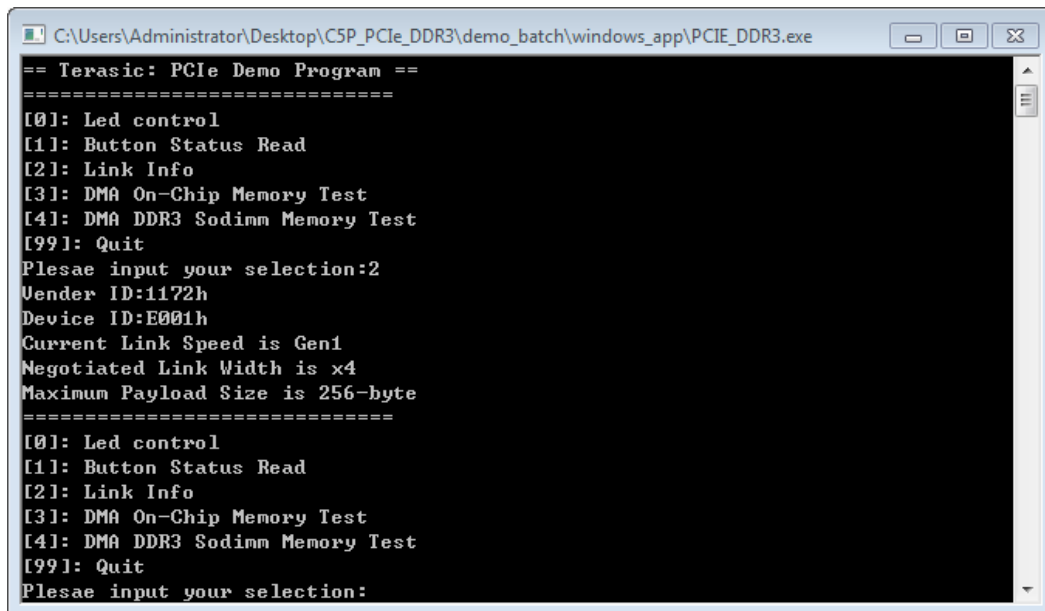

Figure 7-16 Screenshot of Link Info
6. Type 2 followed by the ENTER key to select the Link Info item. The PCIe link information will be shown as in Figure 7-16.